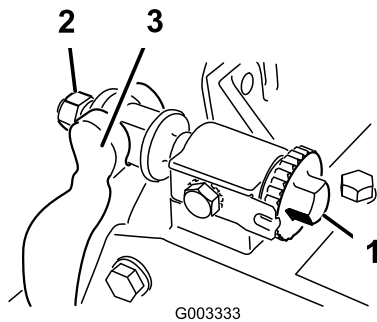

Figure 61
1. Turn the bedbar adjuster screw, counterclockwise, to back the bedknife away from reel (Figure 61).